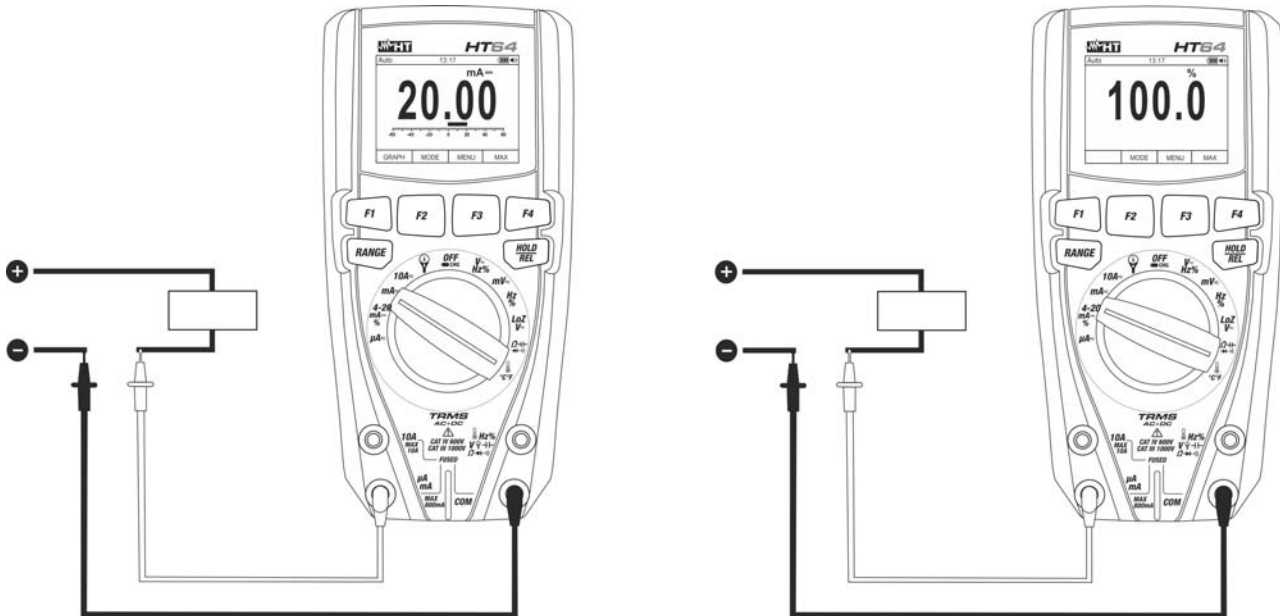

Fig. 30: Use of the instrument for DC current measurement and 4-20mA% reading.
4. Connect the red lead and the black lead in series to the circuit whose current you want to measure, respecting polarity and current direction (see Fig. 30).
6. The value of DC current (see Fig. 30 – left side) appears on the display.
7. The value of reading 4-20mA% (0mA = -25%, 4mA = 0%, 20mA = 100% and 24mA = 125%) (see Fig. 30 – right side) appears on the display. The bargraph is not active in this function.
9. When symbol “-” appears on the instrument's display, it means that current has the opposite direction with respect to the connection in Fig. 30.